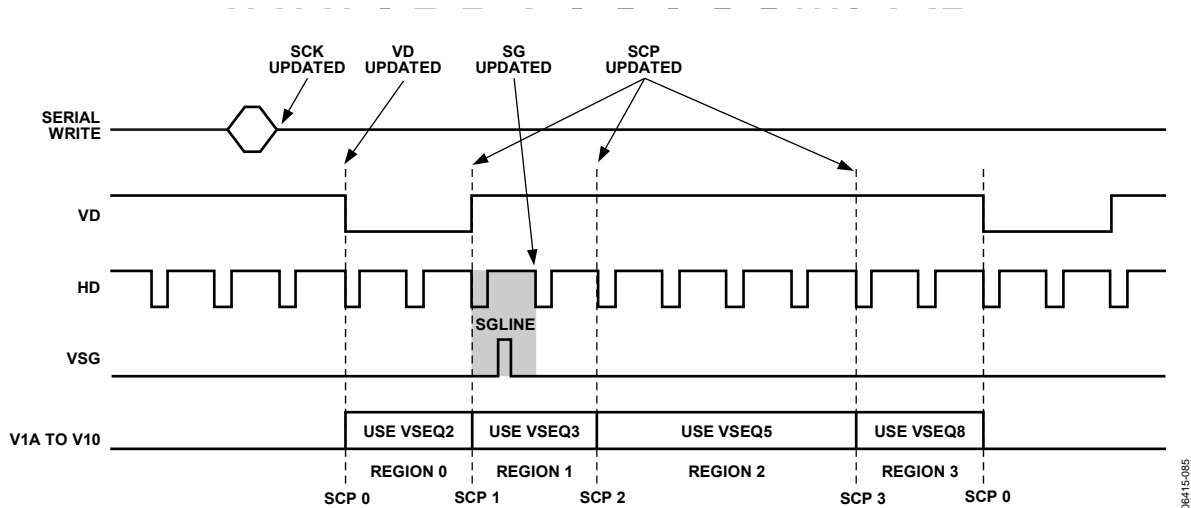

Figure 88. Register Update Locations (See Table 44 for Definitions)
- SCP Updated**—All V-pattern and V-sequence registers are updated at the next SCP where they will be used. For example, in Figure 88, this field has selected Region 1 to use V-Sequence 3 for the vertical outputs; therefore, a write to a V-Sequence 3 or V-pattern group register, which is referenced by V-Sequence 3, is updated at SCP 1. If there are multiple writes to the same register, only the last one before SCP1 is updated. Likewise, a register write to a V-Sequence 5 register is updated at SCP 2, and a register write to a V-Sequence 8 register is updated at SCP 3.